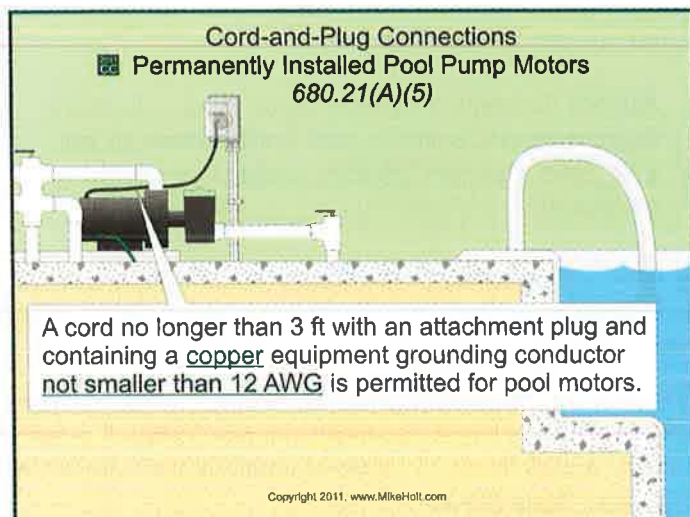

Figure 680-12
(5) Cord-and-Plug Connections. A cord no longer than 3 ft, with an attachment plug and containing a copper equipment grounding conductor, sized in accordance with 250.122, but not smaller than 12 AWG is permitted for pool associated motors. **Figure 680-12**